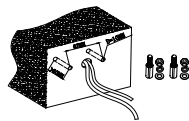

Figure 4-1
Step1: Use a tool to punch two 67MM holes on the wall and then insert 2 expansion screws into the holes, Figure 4-1;